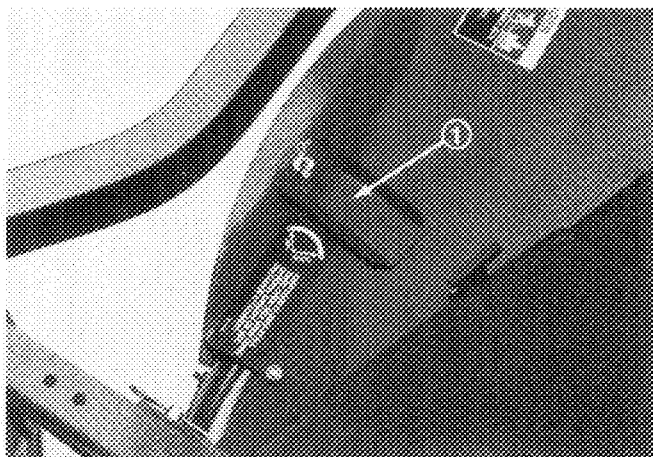

Figure 10
9. Loosen wing nut securing slot cover to top of deck (Fig. 10). Lift cover bump out of slot, rotate cover 180°, pull cover outward to move deck door into the discharge position. Insert cover bump into slot and tighten wing nut.